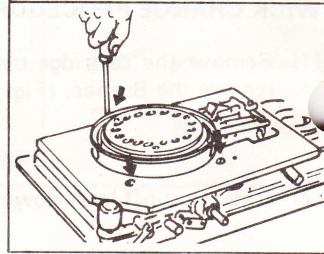

Fig. 20
- (6) Remove 3 screws holding the radiation shield. (Fig. 20)